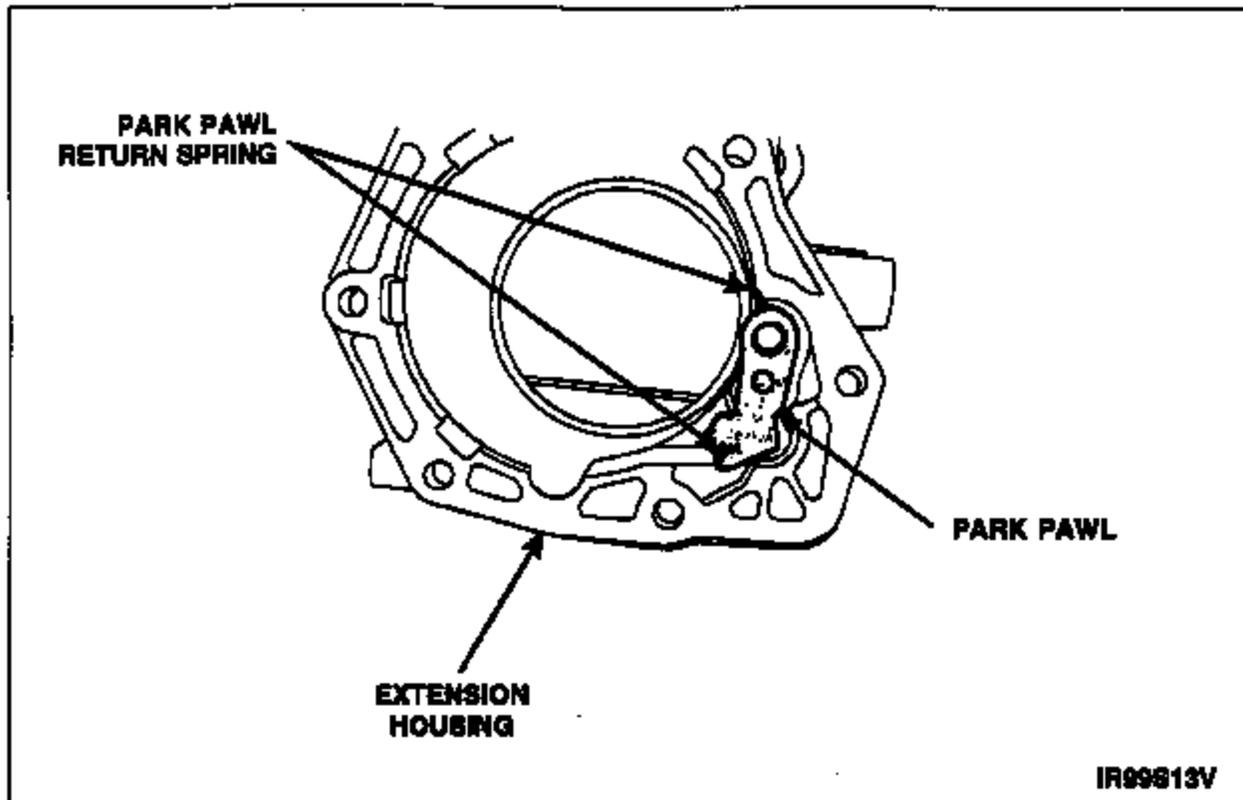

FIGURE 22
76. Make sure the park pawl and return spring are installed in the extension housing as shown in Figure 22.